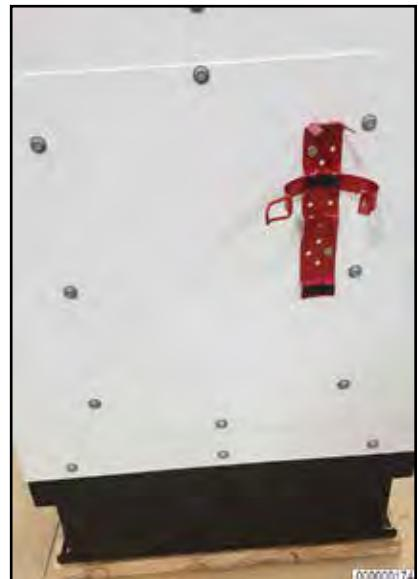

Figure 4
- Step 12: With foam side of rear panel facing down, position fire extinguisher mount over mounting holes and attach to rear panel using two (2) 1/4-20 stainless steel bolts on the mount, and two (2) 1/4-20 stainless steel flat washers & locknuts on the backside. DO NOT overtighten - snug bolts & nuts only.
- Step 13: Reinstall rear panel using eight (8) previously removed bolts with 10mm socket and ratchet or driver. Snug bolts only (Figure 4)